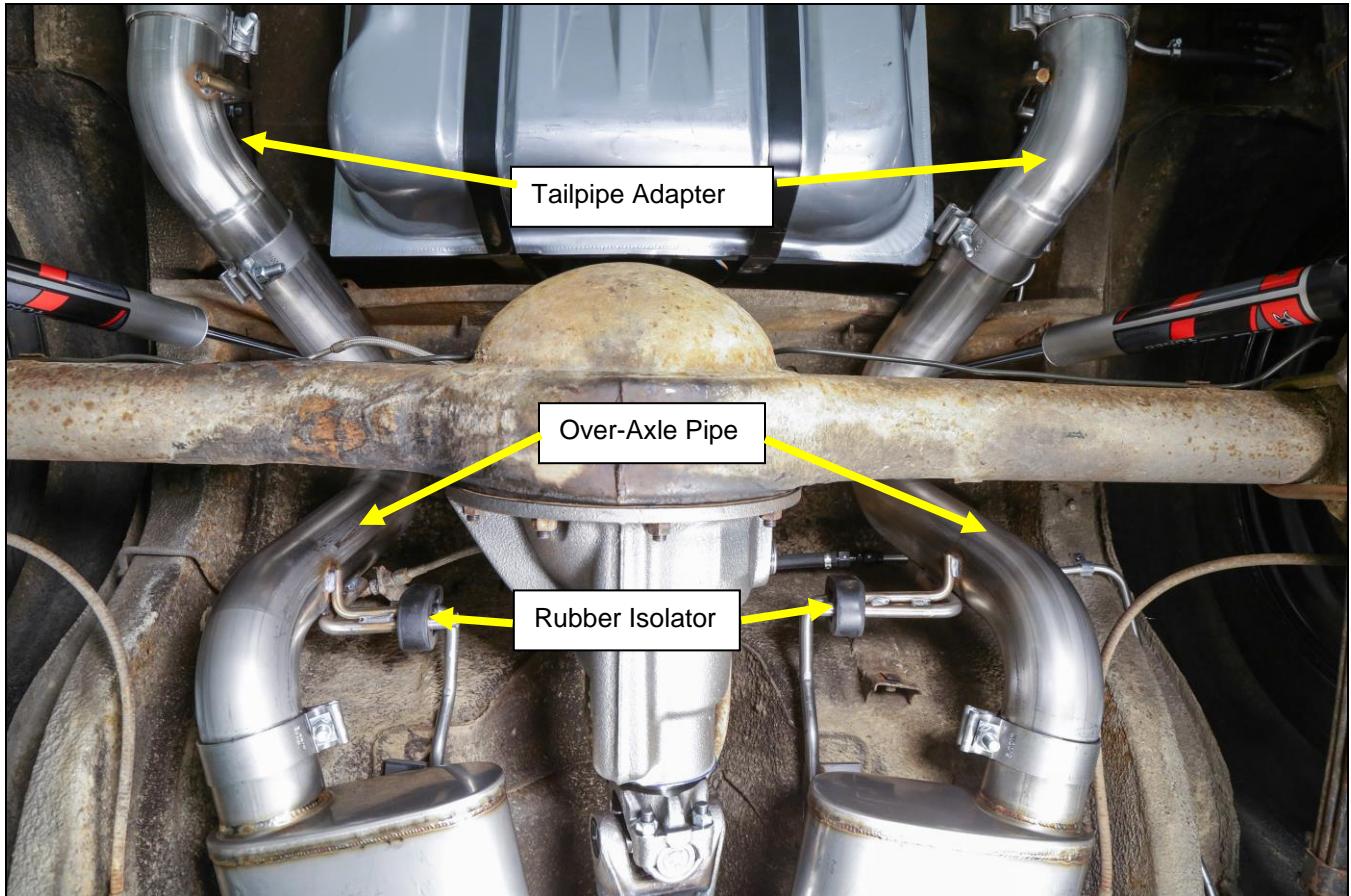

Figure 9
14. Install a rubber isolator on to each muffler hanger rod (**Figure 9**).
15. Install a clamp over the muffler outlet and install the over-axle pipes with the short pipe into the muffler and the hanger rods facing inward (**Figure 9**).